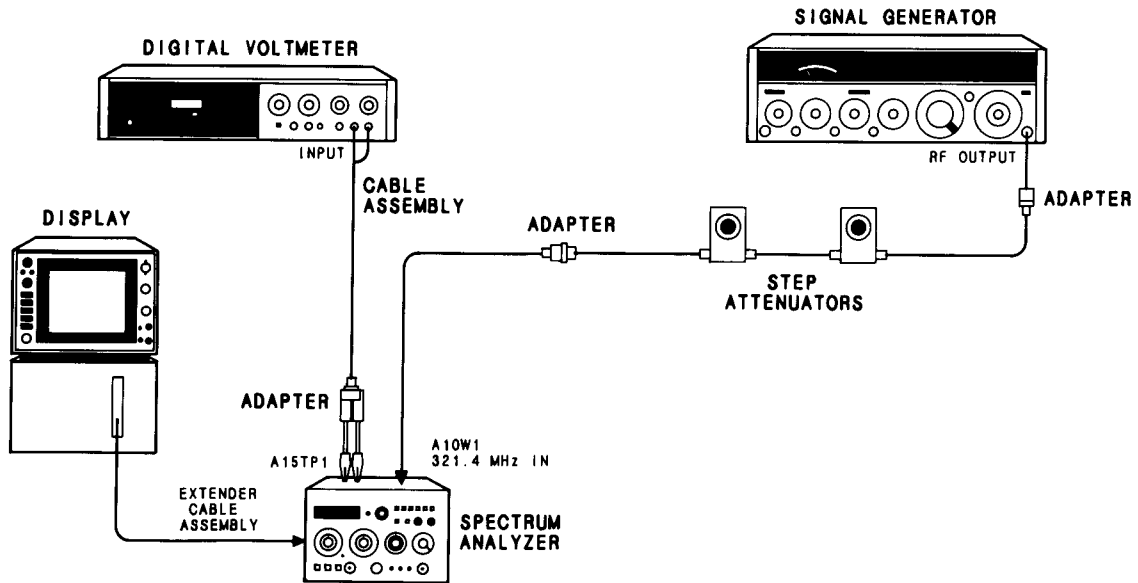

FIGURE 5-3. LOG AMPLIFIER LOG AND LINEAR ADJUSTMENTS TEST SETUP
2. Set 1-dB step attenuator to 10 dB and 10-dB step attenuator to 0 dB. Remove A10W1 (blue cable) from A5J2 and connect equipment as shown in Figure 5-3, using adapter to connect step attenuator to A10W1.